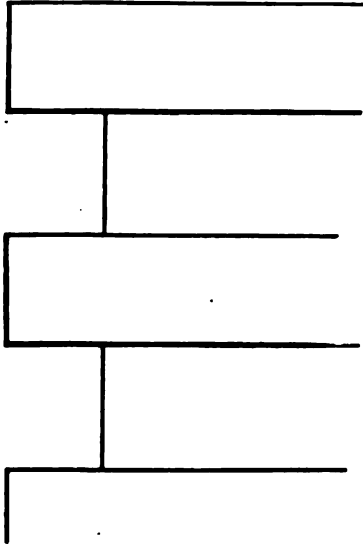
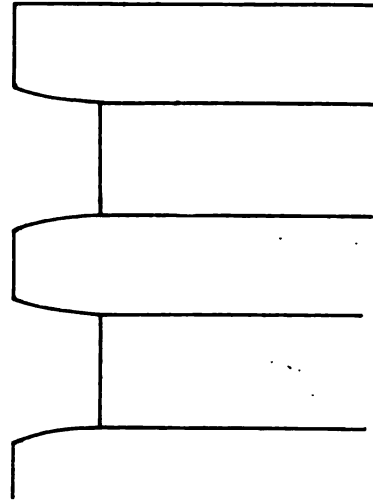

Fig. 10, showing square edges of piston ring slots. Operator must never allow the square edges to become beveled by loosely fitting piston rings
Fig. 11, showing square edges of piston ring slots worn to a bevel by piston rings that had too much vertical play.
Fig. 10 shows the square edges of the piston ring slots. Fig. 11 shows the square edges of piston ring slots worn to a bevel by piston rings that had too much vertical play.
- 117** — Fig. 11 shows the square edges of the piston ring slots worn to a bevel by poorly fitting piston rings. If these square edges are worn to a bevel, it will be impossible to prevent the passage of gases above and below the piston ring and the edges of the slot because the lubricating oil cannot form an effective seal when there is much vertical movement of the piston ring in the slot. *The dry air cleaning device that is used in conjunction with the carburetor should be kept in operation at all times, as it excludes from the engine the dirt that normally would gain access to the combustion chamber and produce wear on the piston ring slots, in addition to the wear that would occur from a loosely fitted piston ring.*
- 130** — When the piston ring is placed in the slot on the piston, it should be free to move in every direction horizontally, *but should move only a slight amount in the vertical.* This vertical movement must be limited from .001 to .0015 (one to one and one-half thousandths) of an inch, so that the expansion will almost close the piston ring slot on the top and the bottom, a thin film of lubricating oil being the final seal to retain compression and prevent the passage of the products of combustion around the ring in the slot. A smooth brown cigarette paper usually micrometers .001 to .00125 of an inch and makes a convenient guide to gauge the vertical movement. If the piston rings are fitted too loose in the beginning, wear on the square bevel edges will ultimately produce the condition shown in Fig. 11 page 31.